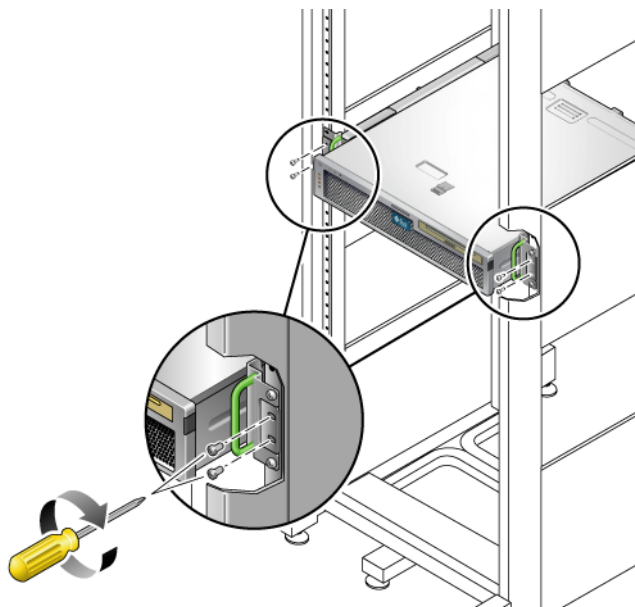

FIGURE 3-22 Securing the Front of the Server to the Front of the Rack
17. At the front of the rack, use two screws per side to secure the side rails that are attached to the server to the front of the rack (FIGURE 3-22).